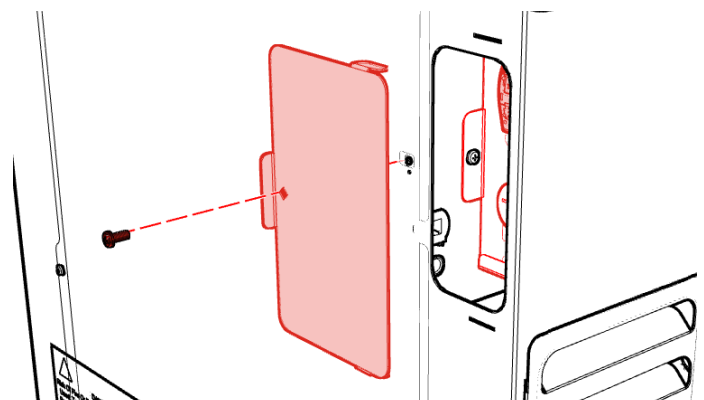

Fig. 11
2. Locate access panel on the back of the refrigerator. Remove screw from the panel, then lift panel up and away to remove from unit (Fig. 11).